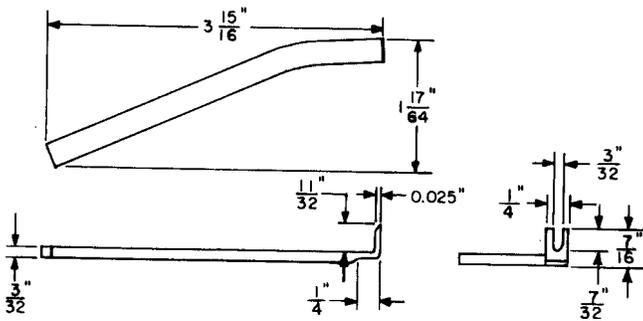

Fig. 4—350 Adjuster Tool
2.04 **350:** The 350 tool (Fig. 4) is a spring adjuster for use on gravity-type relays.